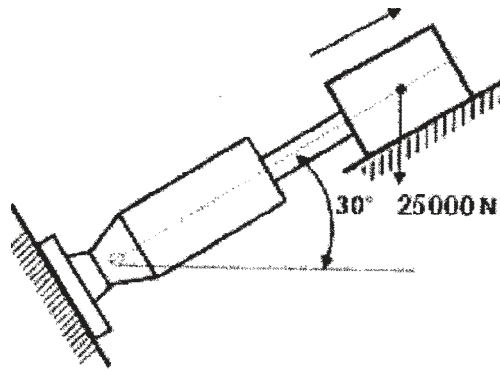

Figure 2c
c) A 25000 N weight is being pushed up on an inclined surface by a cylinder, as shown in Figure 2c. The coefficient of friction between the weight and the inclined surface equals 0.16. For the pressure of 7000 kPa, determine - [8]